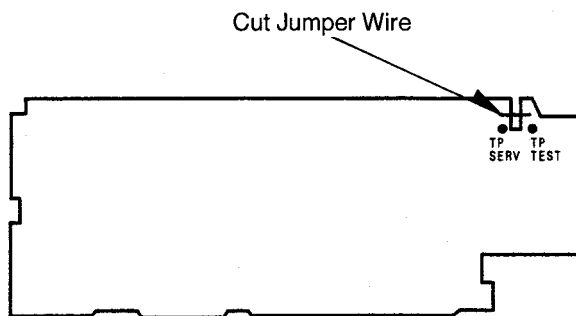

Fig. E4
- Note: 1. Before this adjustment, connect a jumper wire which has been cut as shown in Fig. E4 or set the service mode 2 (refer to section 2-2).